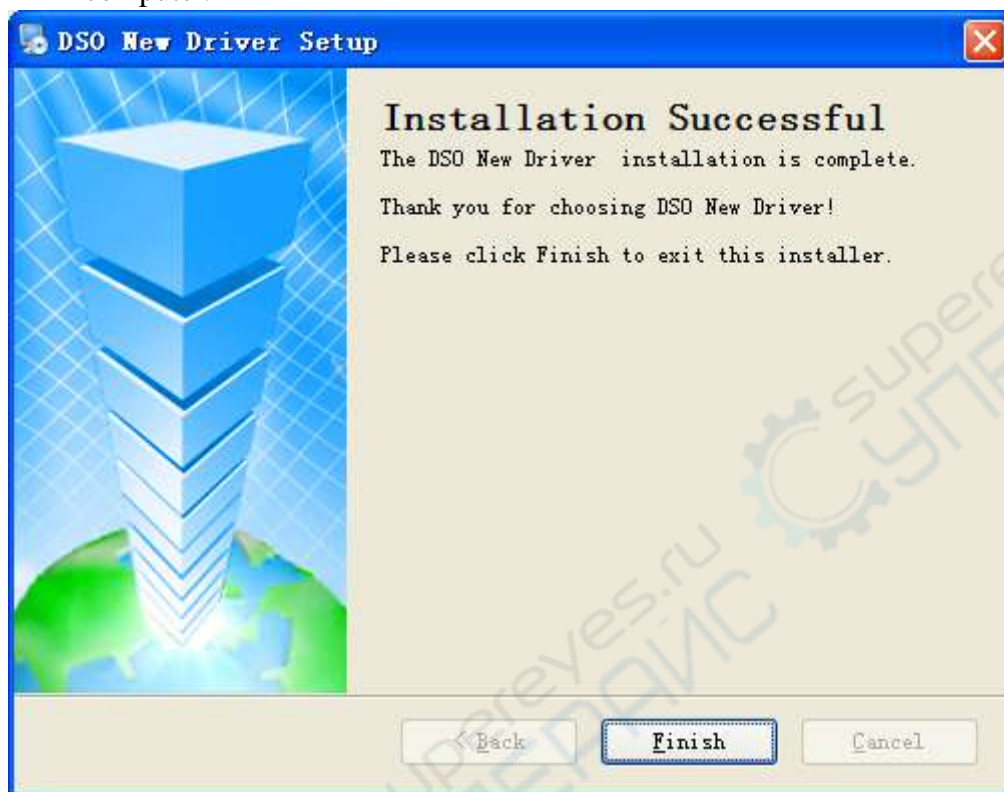

Fig.1-10
**Step 3:** After automatic program installation, an interface as shown in Fig.1-10 will pop up. Click **Finish (F)** to finish installation of the USB driver on the computer.